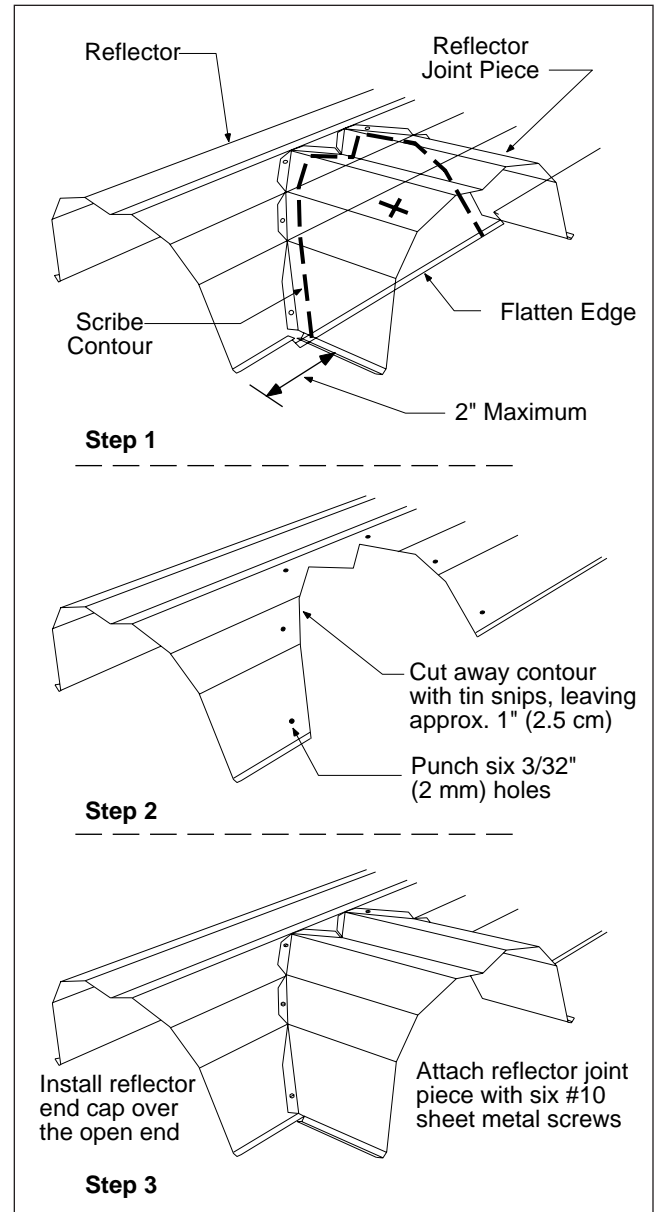

Figure 13. Reflector Joint Piece Installation
2. Cut away the reflector to clear the tube, leaving about one inch of material inside the scribed contour to attach the accessory joint. Drill or punch six 3/32" (2 mm) diameter holes in reflector in the positions shown in Figure 13.